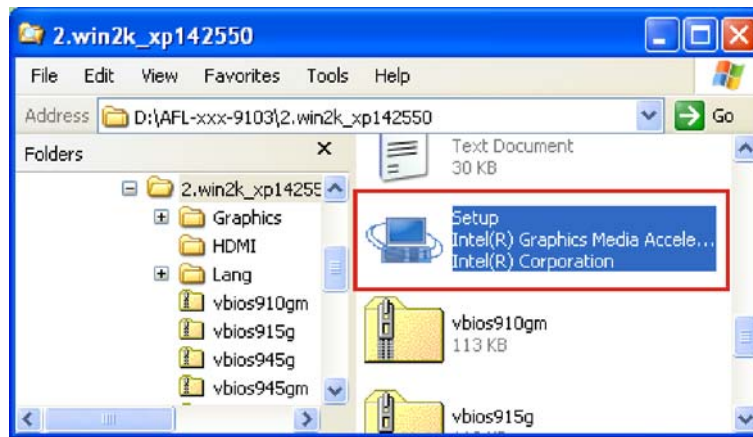

Figure 6-8: Graphics Driver Installation
Step 2: The browser window opens (Figure 6-8).
Step 3: Double-click **setup** in Figure 6-8 to begin the driver installation.